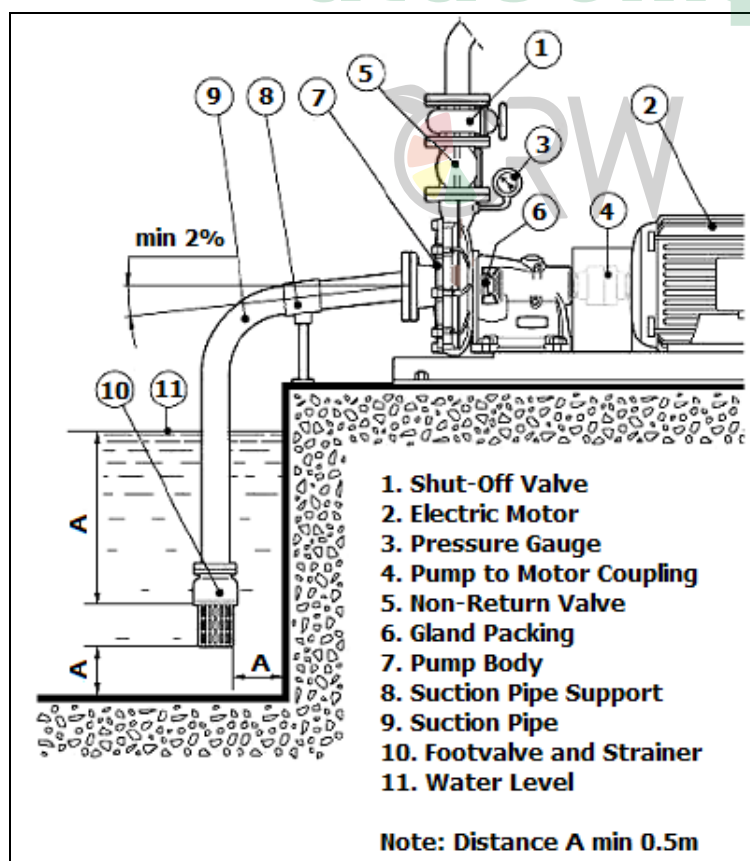

Figure 1.3: Basic Components of a Pump System
Pumps consist of various components, including the motor that drives the pump, the suction and delivery pipes, and various valves. Figure 1.3 shows the various components of a standard pump.
4. Inspect the gland packing around the pump shaft. The gland packing is the seal at the pump shaft and seals the water inside the pump. It is marked as item 6 in figure 1.3.